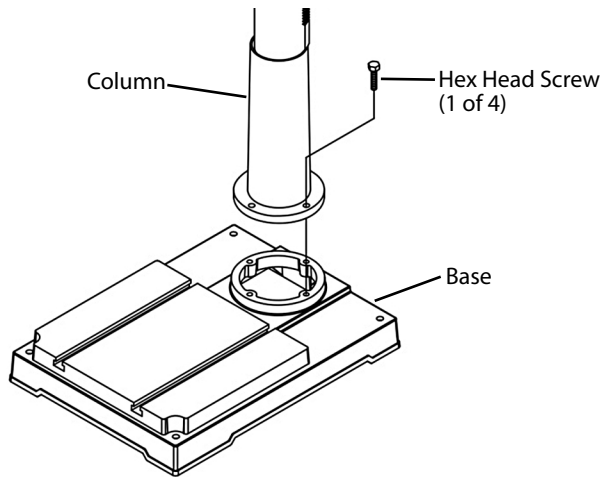

Figure 2 - Attach column assembly to base.
Refer to Figures 2 through 12.
1. Position the base on floor. Attach the column assembly to base using four M12x40 hex head screws (Figure 2).